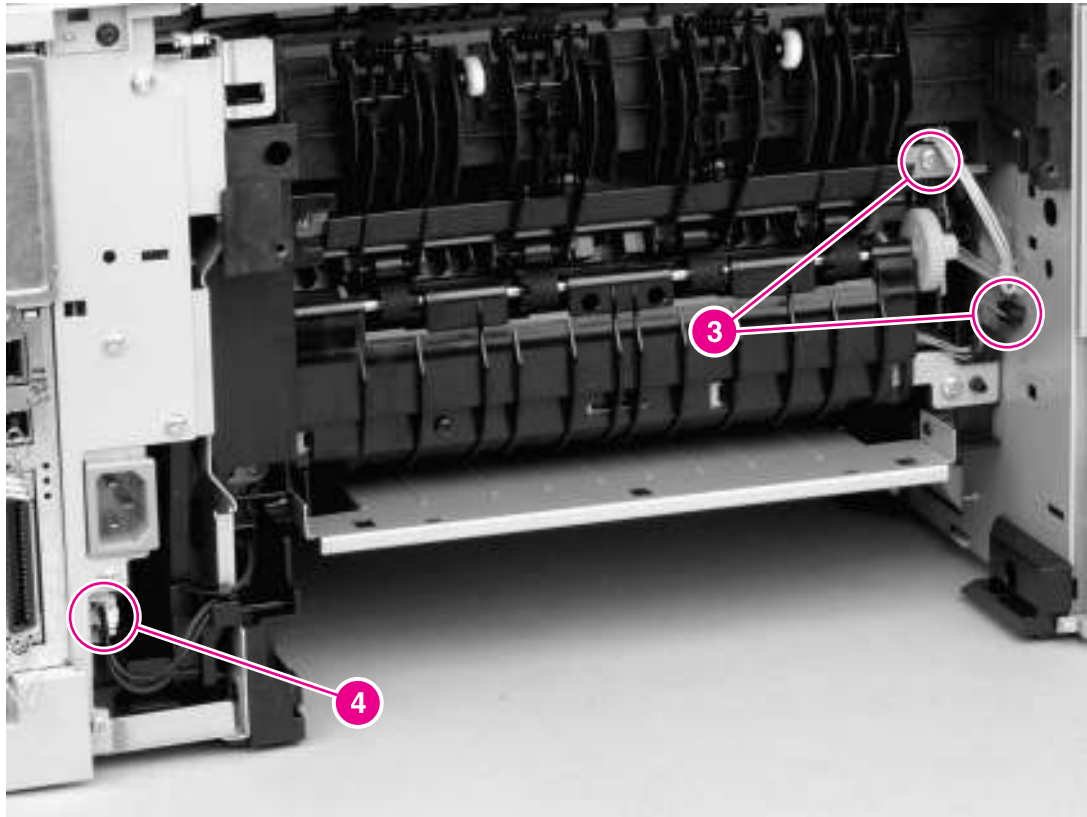

Figure 6-21 Removing the fuser (3 of 5)
5. Disconnect the fuser cable (see callout 4 in Figure 6-21 Removing the fuser \(3 of 5\) on page 95).